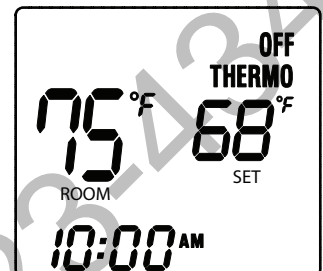

Fig. 6 Thermo Mode
Step 2: Press the MODE button a second time to put the system in **THERMO** mode (Fig. 6).